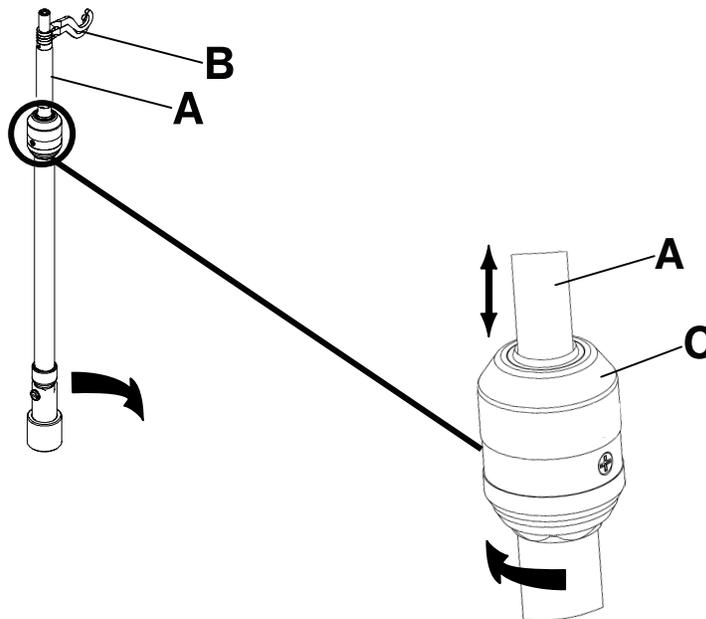

Figure 83: Operating the IV pole
3. To raise the height of the pole, pull up on the telescoping portion (A) until it locks into place at its fully raised position (Figure 83 on page 94).
4. Rotate the IV hangers to the desired position and hang the IV bags (B) (Figure 83 on page 94).
5. To lower the IV pole, turn the latch (C) until the telescoping portion lowers (Figure 83 on page 94).